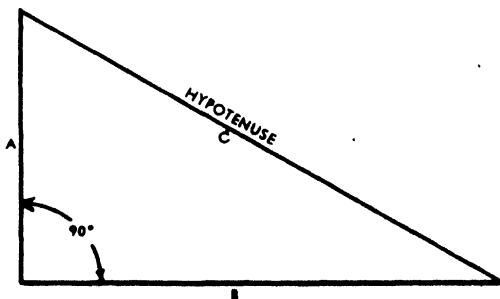

FIG. 83. RIGHT TRIANGLE.
Fig. 83 gives some facts from geometry which are needed in solving the next problems. In a right triangle, the side opposite the right
13. In problem 12, if the center of gravity of the crate is its geometrical center, how high will the C. G. have to be lifted before the crate will overturn a) when it is standing on end? b) when on its side? Make accurate diagrams, using the information given in Fig. 83 to aid you in solving.